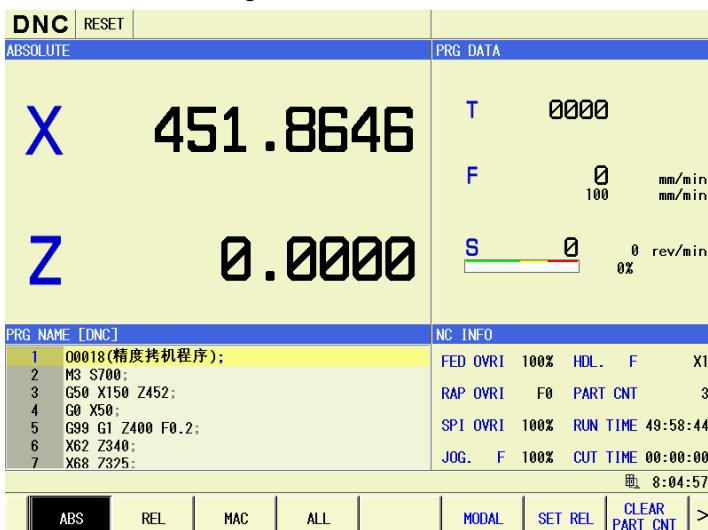

Fig.6-7
- (3) The key is pressed to start the program, the program is automatically started and the cycle start indicator is ON. When the automatic running ends, the cycle start indicator is OFF, which is shown as Fig. 6-7: